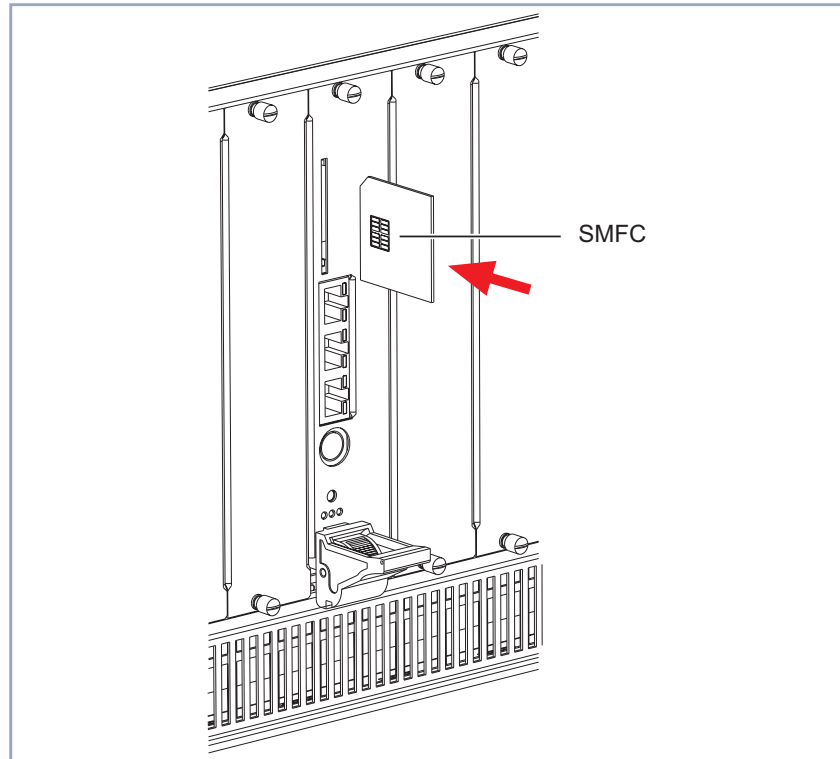

Figure 4-9: Insert SMFC into its slot
- Insert the optional Smart Media Flash Card into the "Smart Media Flash Card" slot on X8A-SYS or X8A-SYS-VPN (see figure 4-9, page 46, "SM-FC"). Further information on X8A-SYS and X8A-SYS-VPN can be found in figure 5-1, page 77.